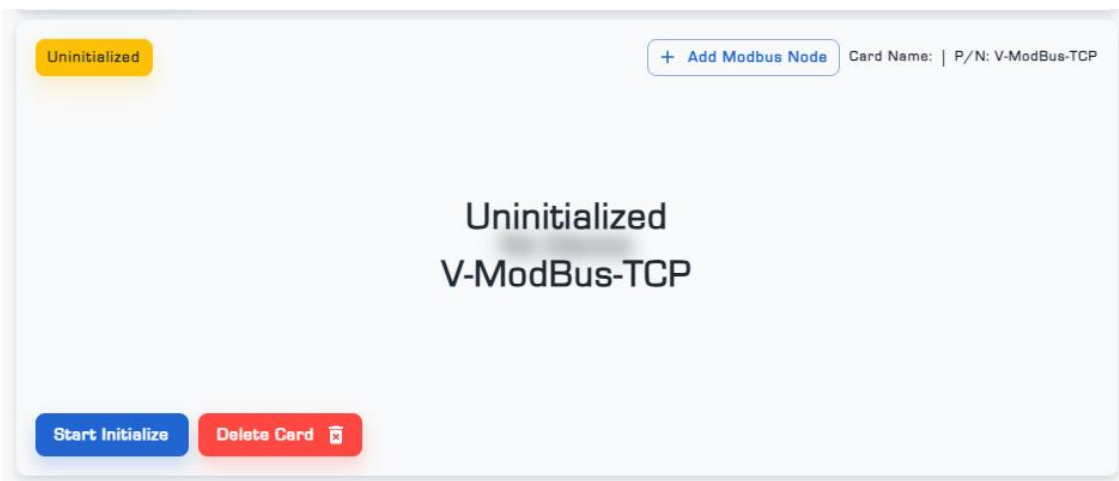

Figure 35: The added virtual card is without initial configuration.
(2) To perform the initial configuration of the card, click on the 'Start Initialize' option (Figure 35).